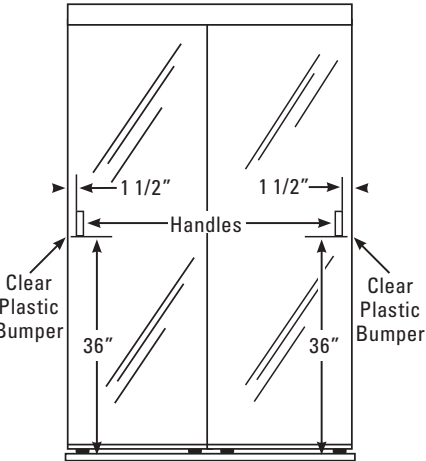

Figure 9
A. Clean the Mirror in the area where the Mirror Handles will be applied. Peel the film off the back of the Mirror Handles. Position each Mirror Handle 36" from the bottom of the Door Panel and 1-1/2" from the Side Mold on each Door Panel (See **Figure 9**).
A. Peel film off the back of the Clear Plastic Bumpers and place on the edge of the Door Panel frame 36" up from the bottom of the Door Panel. The Clear Plastic Bumpers will cushion and protect the door and wall when you close the wardrobe doors (See **Figure 9**).